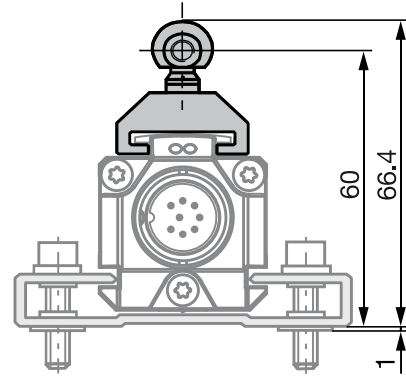
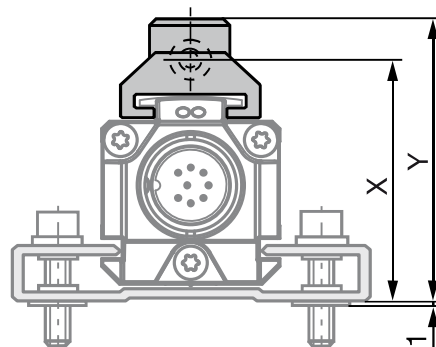
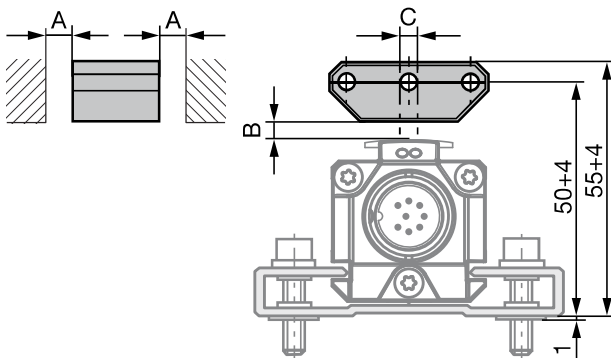
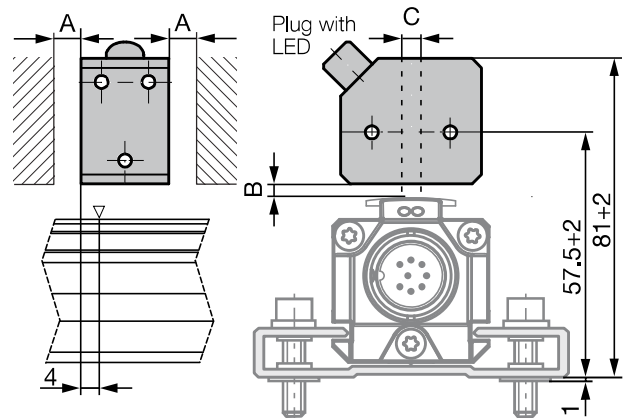

Fig. 4-1: Dimensions and distances with BTL5-F-2814-1S magnet
Fig. 4-3: Dimensions and distances with BTL5-M/N-2814-1S magnet
Fig. 4-4: Dimensions and distances with BTL5-P-3800-2 magnet
Fig. 4-8: Dimensions and distances with BTL5-P-4500-1 electromagnet (24 V/100 mA)
**i** The micropulse transducer in profile housing is suitable both for floating, i.e. non-contacting magnets (see Fig. 4-4 to Fig. 4-8) and for captive magnets (see Fig. 4-1 to Fig. 4-3).
- Ensure that the distance A between parts made of magnetizable material and the magnet is at least 10 mm (see Fig. 4-4 to Fig. 4-8).
- Maintain the following values for distance B between the magnet and transducer and for center offset C (see Fig. 4-4 to Fig. 4-8):
**i** The measuring range is offset by 4 mm towards the transducer plug (see Fig. 4-8).